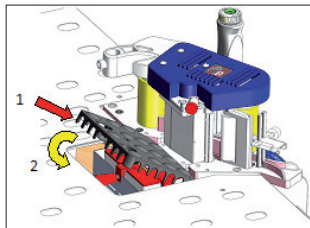

**Fig. 9**
- Put the Edgebander onto the worktable; follow the instruction graphically shown in Fig 9 & 10 to tighten up the three screws.